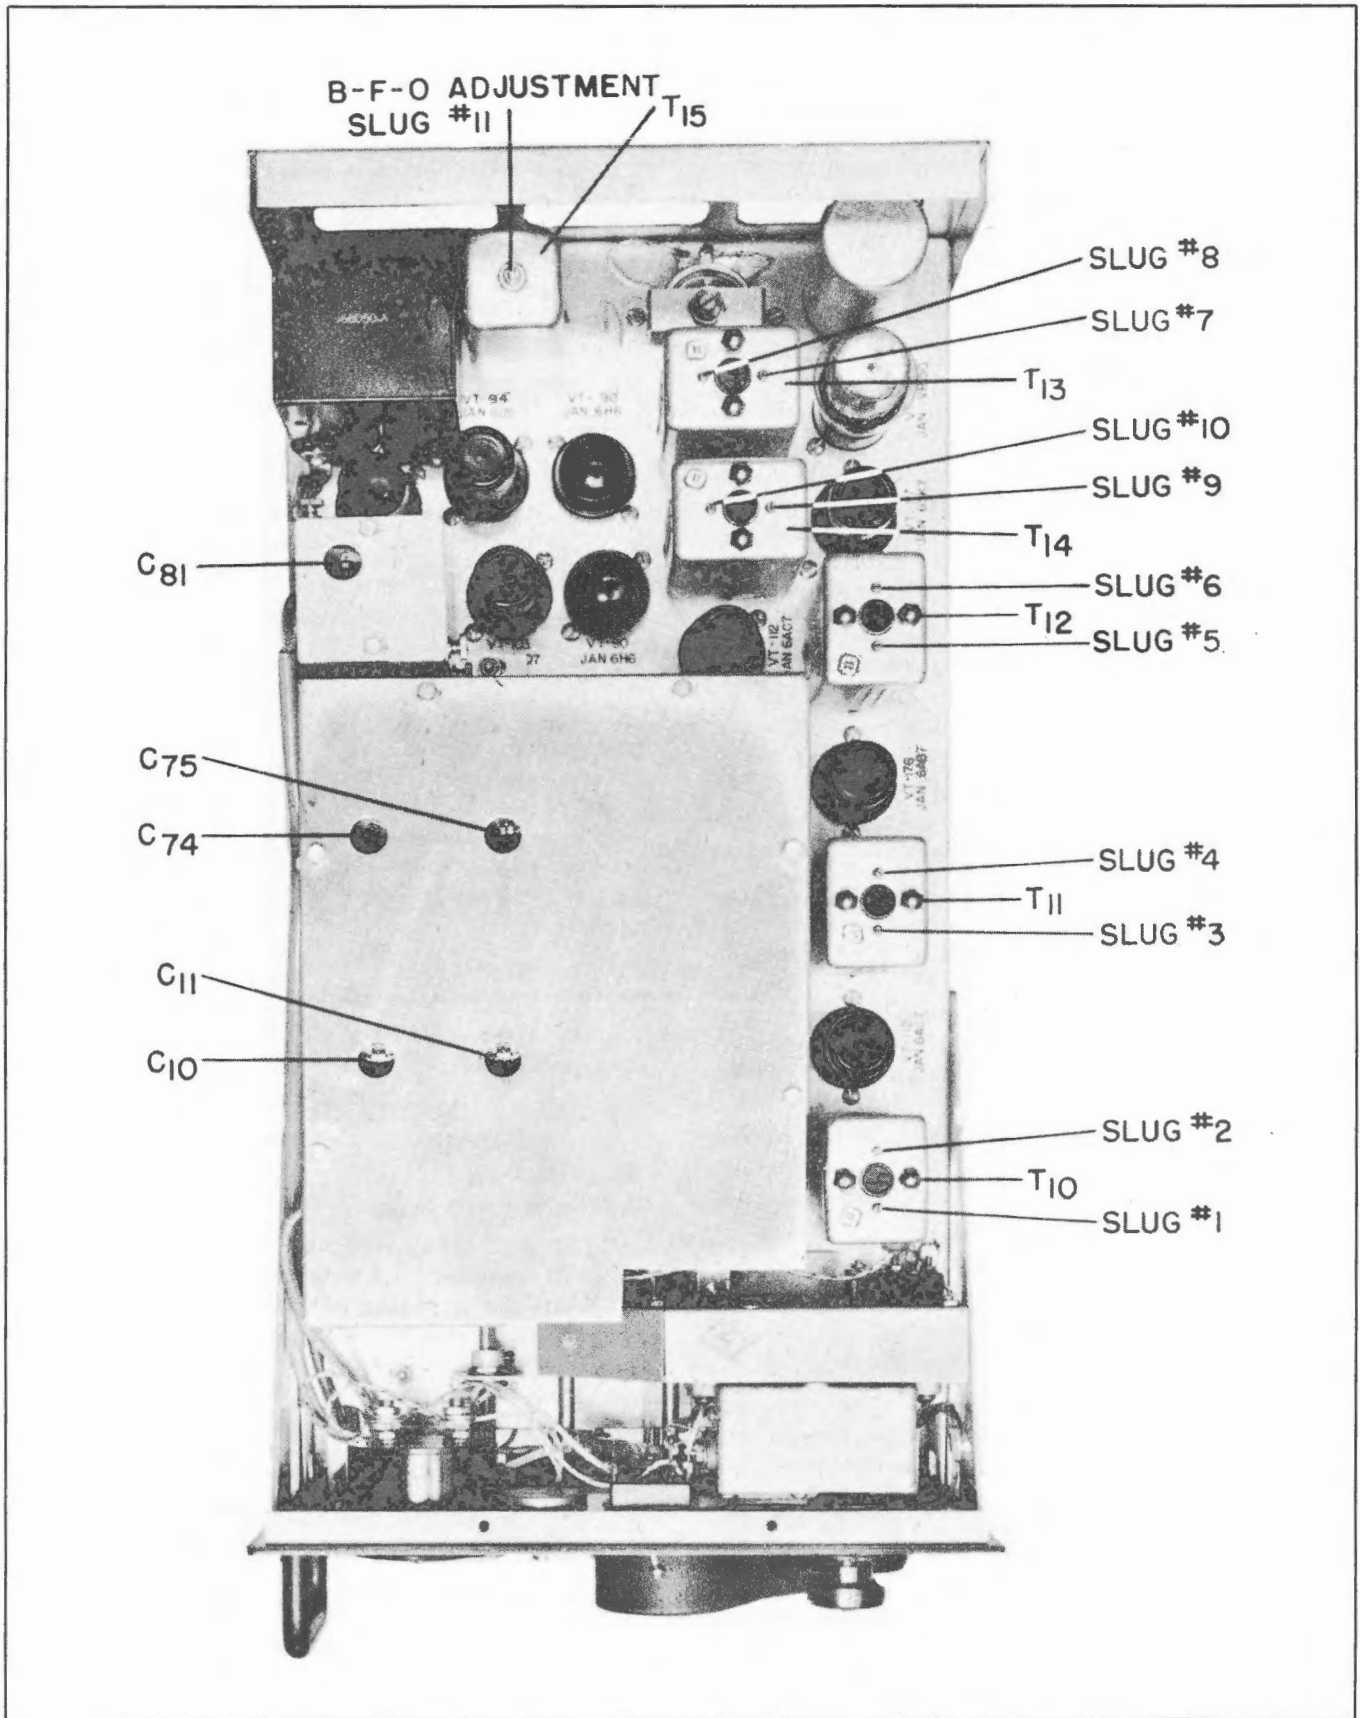

Figure 5-1—Radio Receiver R-44/ARR-5—Top View Showing Alignment Points
(3) Set the signal generator frequency at 5.25 megacycles and with the 400-cycle modulation turned on; align transformer T10, T11, T12, and T13, by adjusting the position of the two iron cores in each transformer (slugs 1, 2, 3, 4, 5, 6, 7, and 8) for maximum audio output as indicated on the output meter connected to the phone jack. (See figure 5-1 for location of these adjustment screws.) A bakelite screw driver with a metal or insulated tip is necessary for accurate alignment.
(4) Repeat the alignment procedure outlined above at least once to insure an accurate alignment.
(5) After the i-f transformers are tuned, glyptal the iron slug adjustment screws to keep them in place.
(1) Set the "SELECTIVITY" switch at "BROAD" and "A.M.-F.M." switch at "F.M."
(2) With the signal generator set at the 5.25 megacycles i-f frequency and with the 400-cycle modulation on, rotate the iron slug adjustment screw for No. 10 adjustable iron core in the secondary winding of transformer T14 until the signal level on the output meter drops to zero. This null point is approached very suddenly, therefore, the control must be turned very slowly. (See figure 5-1 for location of this slug adjustment screw.)
(3) Now detune this adjustment slightly so that the output meter gives a readable indication.
(4) Adjust the primary iron core (slug No. 9) of the discriminator transformer for maximum response.
(5) Reset the secondary slug (No. 10) until the output again drops to zero.
(6) Detune the signal generator to a frequency lower than the i-f frequency until the maximum output point is reached. Note the output meter reading and